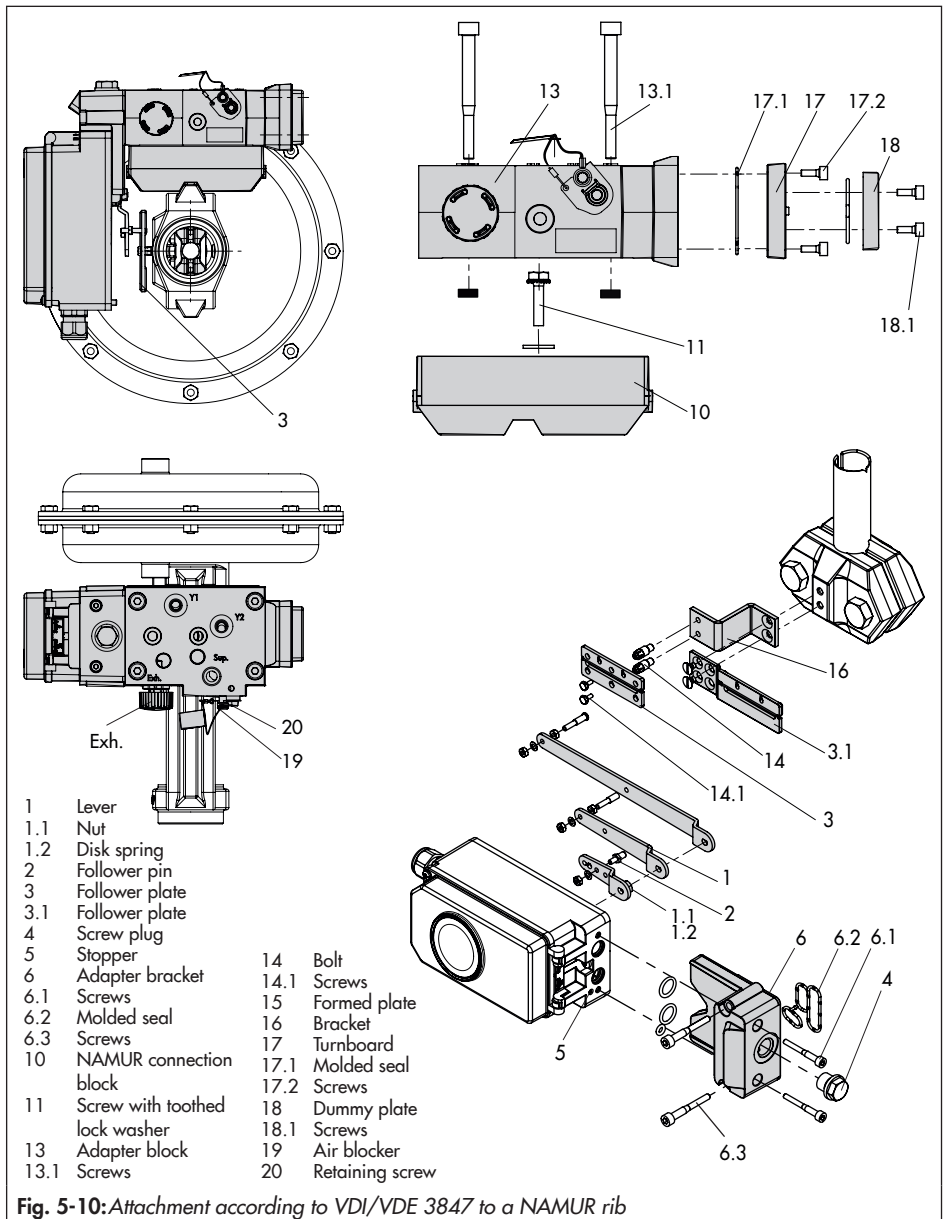

Fig. 5-10: Attachment according to VDI/VDE 3847 to a NAMUR rib
**Attachment to NAMUR rib (see Fig. 5-10)**
1. **Series 240 Valves, actuator size up to 1400-60 cm2:** Screw the two bolts (14) to the bracket of the stem connector or directly to the stem connector (depending on the version), place the follower plate (3) on top and use the screws (14.1) to fasten it.
Mount the positioner on the NAMUR rib as shown in Fig. 5-10.